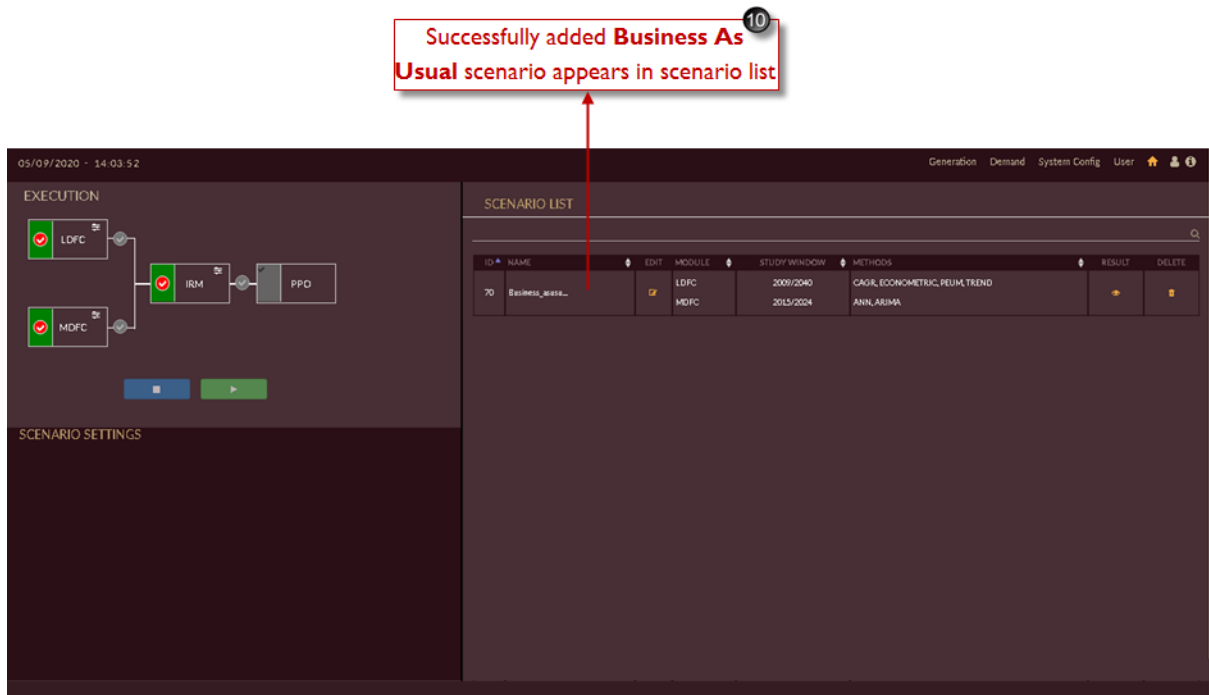

Figure 64. BAU Scenario in Scenario List
10. The scenario appears in the scenario list as shown in Figure 64.